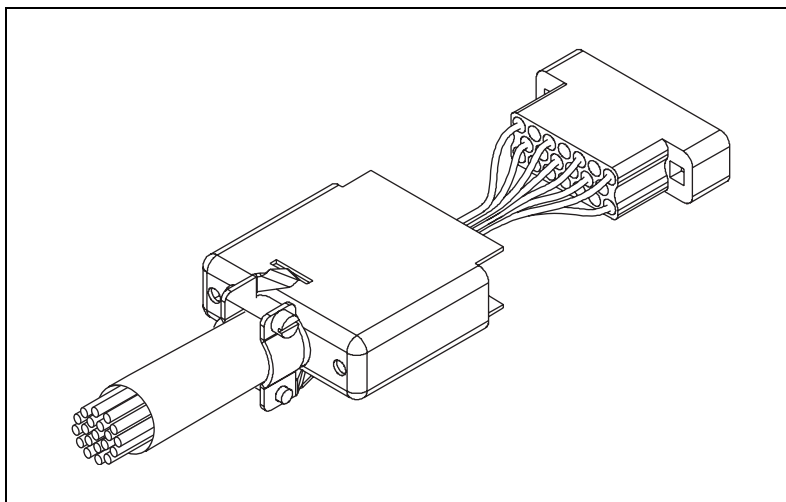

Figure 3. Connector with Inserted Solder Cup Pins
9. Refer to the front panel pinout diagram in your module specifications. Use this diagram to insert the solder cup pins (with conductors attached) into the connector. Solder cup pins will snap into place when inserted correctly, as shown in Figure 3.